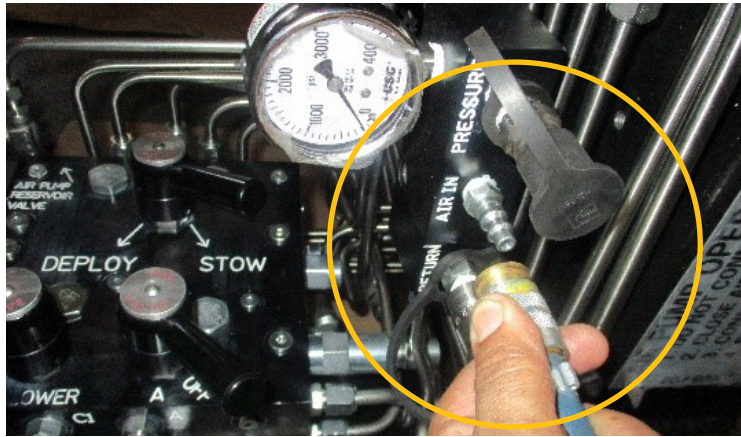

Figure 5.15-1 - Air Manifold Assembly
- 5.3-5 Connect air supply to fitting on Air Manifold Assembly (Figure 5.15-1). Open the air supply shut off valve as in Figure 5.17. Air pump should start to pump and will stop when pressure reaches maximum.
- 5.4.4 Connect air supply to air manifold assembly (*Figure 5.15-1*) . Open the air supply shut off valve (*Figure 5.17*). Air pump should start to pump and will stop when pressure reaches maximum. Air supply should be a minimum of 75 PSI. Air pump has a 30:1 air pressure to oil pressure ratio. Air pressure regulator should NEVER be set above 75 PSI.